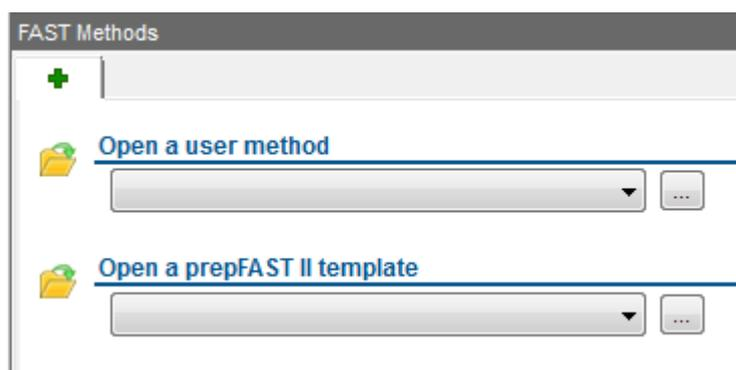

Figure 14-37. Opening a FAST Method from the FAST Methods tab
- Open the FAST Methods view, see Figure 14-37.